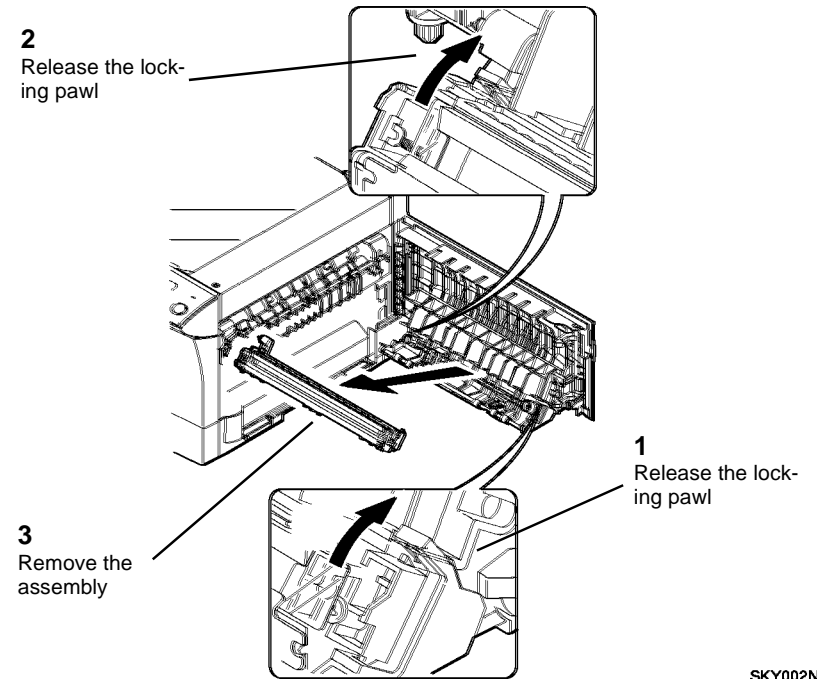

Figure 1 Removing the Transfer/Detack Corotron Assembly
2. (Figure 1): Remove the Transfer/Detack Corotron Assembly.